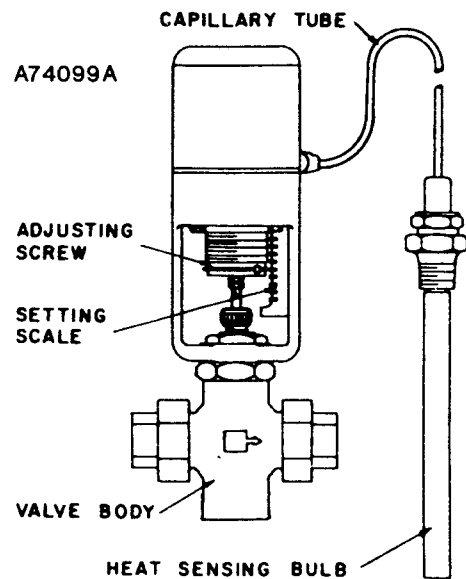
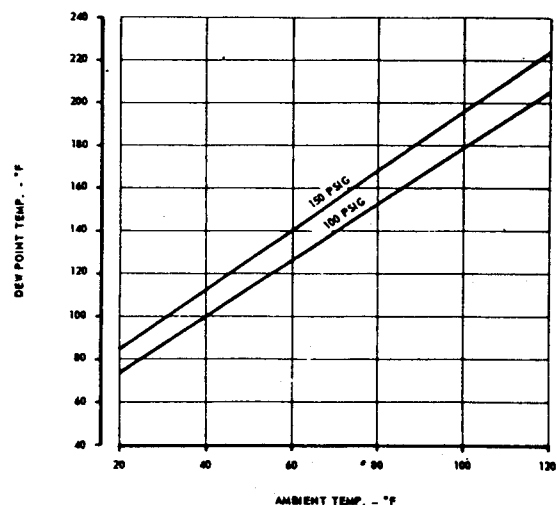

FIGURE 6-5. — WATER CONTROL VALVE
FIGURE 7-5. — DEW POINT TEMPERATURE VS. AMBIENT TEMPERATURE (100% RELATIVE HUMIDITY)
**WATER FLOW CONTROL VALVE FOR HEAT EXCHANGER (Optional Equipment)** (Figure 6-5) — The water flow control valve is adjustable to compensate for varying water inlet temperatures and pressures and is to be mounted in the water outlet line after the oil cooler (Figure 1-5). Use the compressor discharge air temperature gauge on the instrument panel in setting the flow control valve. The compressor discharge temperature must be maintained a minimum of 10° F above the dew point temperature at the maximum anticipated ambient; refer to Figure 7-5 for the dew point temperature at the operating pressure and ambient temperature of the application.